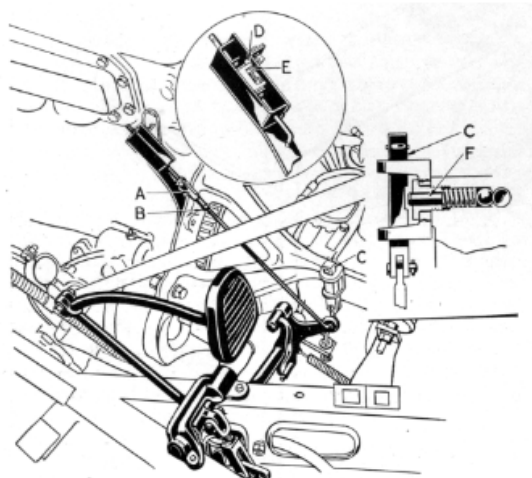

Figure 6
The lock nut (B) should be loosened and yoke (A), Figure 6, on the rod, which operates the clutch circuit breaker should be adjusted so that the clutch pedal must
be depressed halfway to the toe board before the circuit is closed. The upper insert in Figure 6 shows the position of the parts inside the circuit breaker at the point where the circuit is closed. (D) is the stationary contact and (E) the sliding contact.
At the time the circuit is closed the transmission shifting rail locks must be released so that the shift can be made. The lower insert in Figure 6 shows the proper position of the lock bar link (C) and plunger (F).